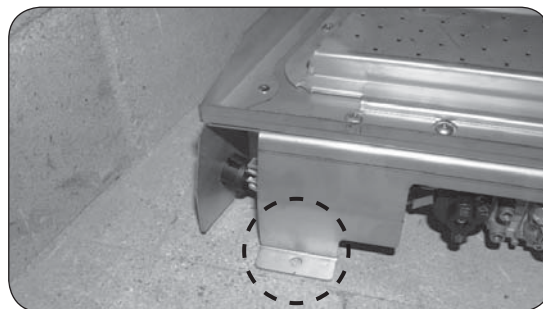

Fig. 8-3 Anchoring tab close up
6. Using the appropriate hardware for your fireplace construction (not included); secure the burner system into the fireplace floor. The unit has two anchoring tabs, reference Fig. 8-3.